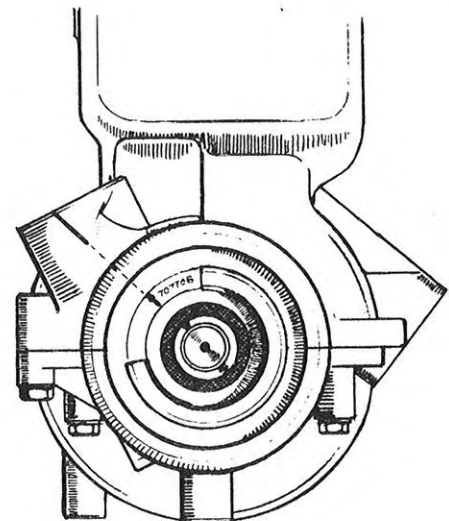

Fig. 17. Marking of outer cover, distributor gear case
10. Remove the tool and fit outer cover with O-ring and shaft seal. Screw on the tool 93-107 to crankshaft and press in cover. Note that arrow on cover must point towards ignition timing mark on engine block. See Fig. 17.